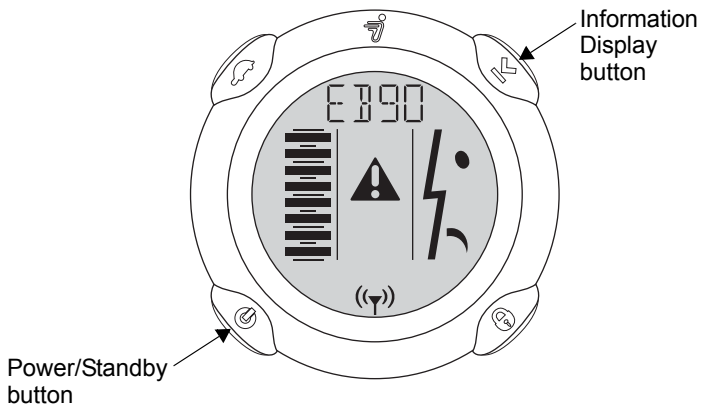

Figure 8. InfoKey Controller Display During a Training Safety Shutdown
- The third person may then press and hold both the Information Display button and the Power/Standby button simultaneously until the Safety Shutdown initiates. **Figure 8** shows the InfoKey Controller display during a training Safety Shutdown.